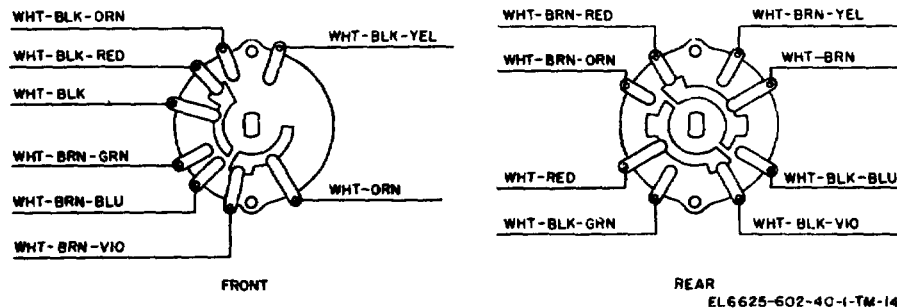

Figure 4-4. Attenuator, Impedance Matching CN-947B/USM-181 OUTPUT IMPEDANCE switch wiring diagram.
- (1) Solder the leads to the replacement switch as shown in figure 4-4.
- (2) Fasten the switch to the mounting plate with threaded hardware.
- (3) Replace the front panel, switch mounting plate and support posts.
- (4) Replace the knobs and terminals on the front panel.